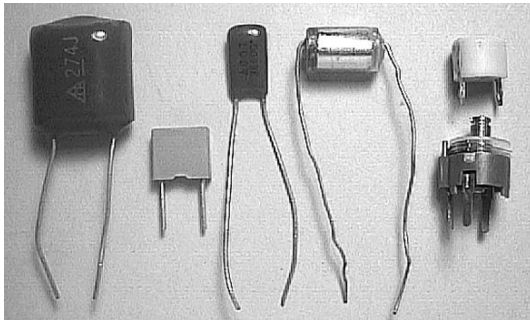

FIGURE 16.4
**Polystyrene:** (Figure 16.4, fourth from left) These are constructed in a way similar to polyester capacitors. Using polystyrene as an insulator results in lower capacitances than with polyester. However, they can be made with much closer tolerance, so are suitable for tuning circuits and filters.
The larger capacitors used for tuning radio receivers have air as the insulator. Plastic film is used in small trimmer capacitors (Figure 16.4, right). Some trimmers work by having a screw adjustment that compresses or loosens the plates and film to vary the capacitance.